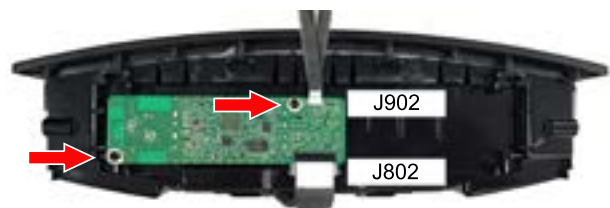

Figure 13. Wi-Fi Module Removal
7.2 Remove the FFC from J902 and J802. Figure 13.